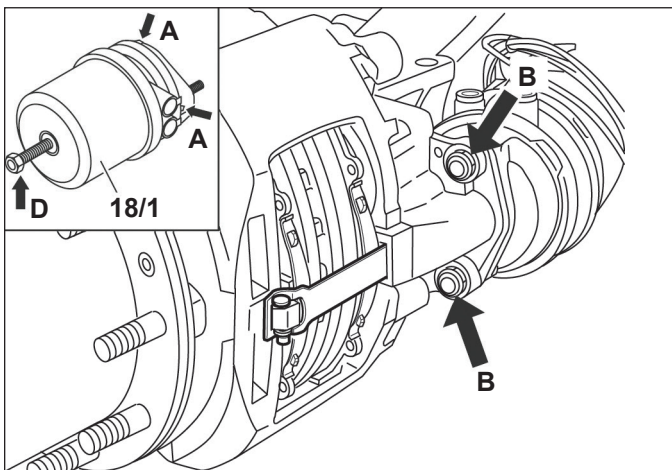

Figure 42 – Actuator Spring Caging and Removal
4.4.3 With the vehicle on a level surface and the wheels properly chocked, apply air to release the spring brakes (parking brakes) by using the dash-mounted air control valve. Back out the release bolt (See *Figure 42, arrow "D"*), using a maximum torque of 26 ft-lbs (35 N•m) to cage the air released spring force on the pushrod.
4.4.5 Exhaust the air from the brake chambers by using the dash-mounted air control valve. With all air pressure drained from the system, disconnect the air hoses from the brake chamber. While supporting the brake chamber in position, remove and discard the brake chamber mounting nuts (See *Figure 42, arrows marked "B"*). Remove the brake chamber.
NOTE: Where a new spring brake chamber is being installed, note that in some cases drain plugs are installed (See Figure 42, arrows marked "A"). Where drain plugs are present, after installation, remove whichever plug is at the lowest position. The selected drain hole must be aligned downwards (or within $\pm 30^\circ$) when installed on the vehicle. In the case of spring brake chambers, install the pads before uncaging the spring.